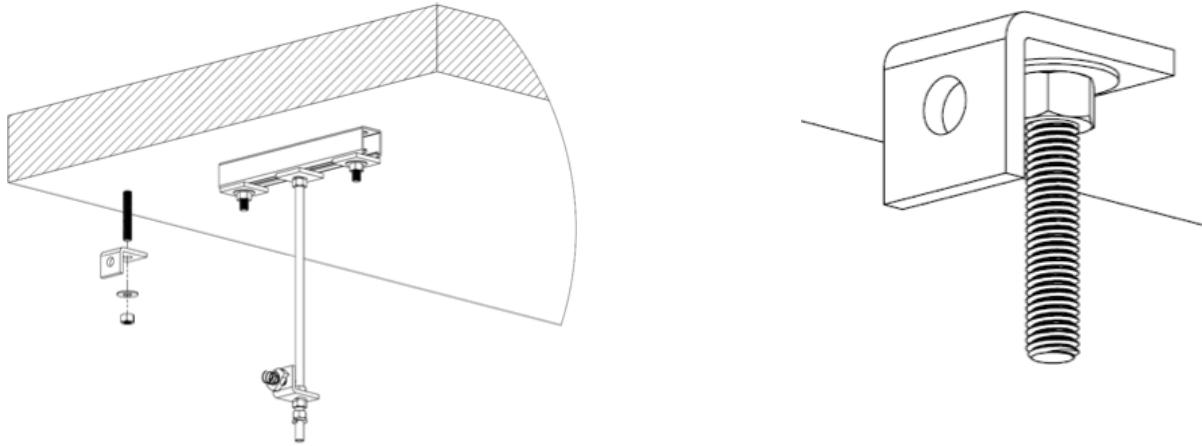

Figure 263: **Secure a Two-Hole 90° Strut Fitting to the Anchor, Flat Against the Concrete Slab**
6. Using the hex nut and flat washer supplied with the anchors, secure a two-hole 90° strut fitting to the anchor, flat against the concrete slab (Figure 263).